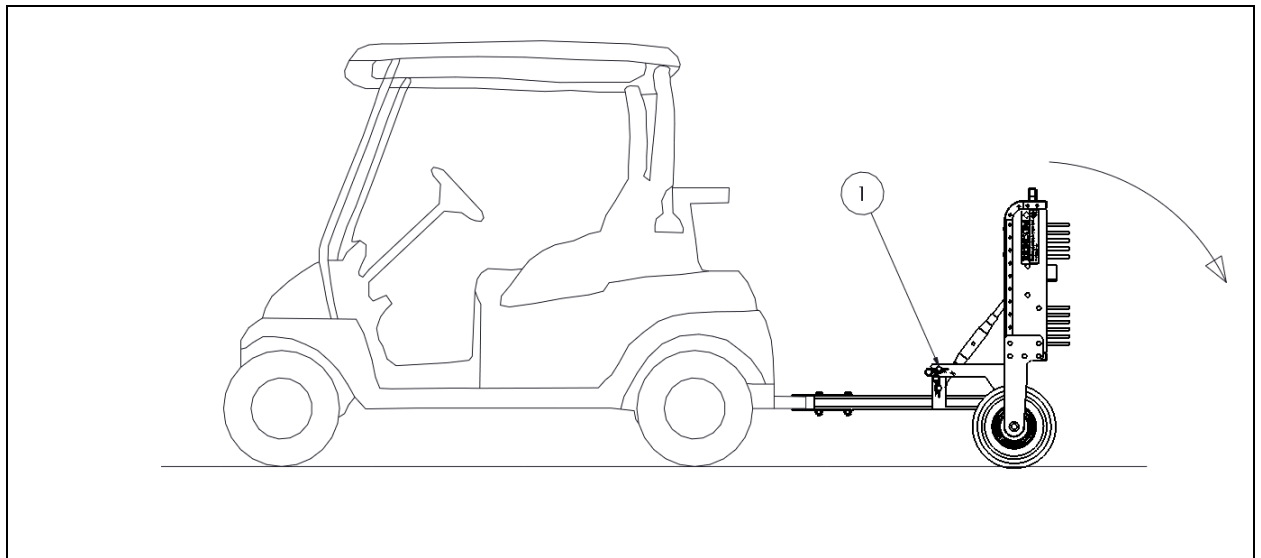

Fig 8
3. Firmly hold the machine and release the pin (1). Slowly tilt the machine so that it rests on the surface, on the brushes (see Fig.8).